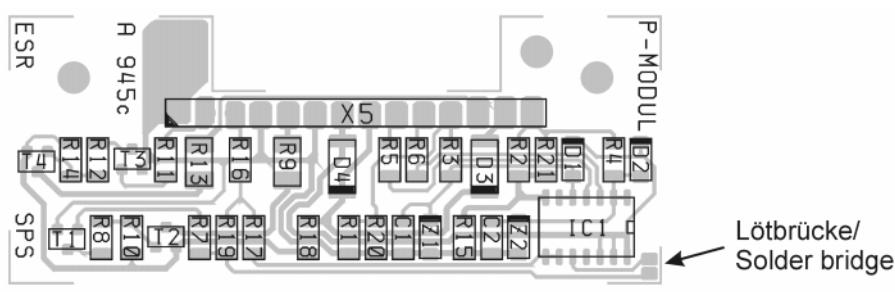

Fig. 16: Solder bridges on the P1 and P2 modules
- connect the two soldering areas labeled “Be” on the polarity module, see fig. 16.